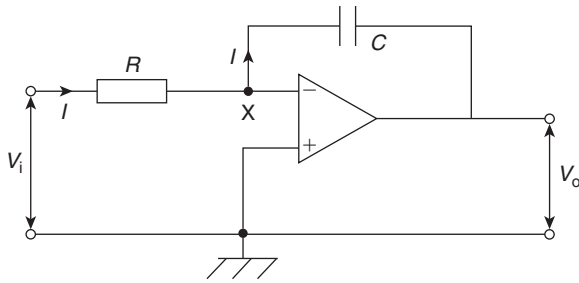

Figure 19.15
The circuit for the op amp integrator shown in Fig. 19.15 is the same as for the op amp inverting amplifier shown in Fig. 19.5, but feedback occurs via a capacitor C , rather than via a resistor.
Since the inverting (–) input is used in Fig. 19.15, V_o is negative if V_i is positive, and vice versa, hence the negative sign in equation (9).
Since X is a virtual earth in Fig. 19.15, i.e. at 0 V, the voltage across R is V_i and that across C is V_o . Assuming again that none of the input current I enters the op amp inverting (–) input, then all of current I flows through C and charges it up. If V_i is constant, I will be a constant value given by $I = V_i/R$. Capacitor C therefore charges at a constant rate and the potential of the output side of C ($= V_o$, since its input side is zero) charges so that the feedback path absorbs I . If Q is the charge on C at time t and the p.d. across it (i.e. the output voltage) changes from 0 to V_o in that time then: